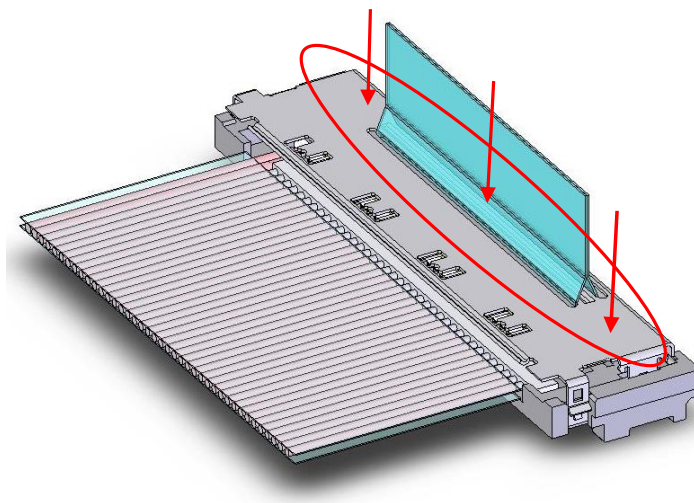

Fig.6 Insert of Shell-A (Correct)
- ③ The ○ part (see Fig.6) of shell-A is pushed and inserted.